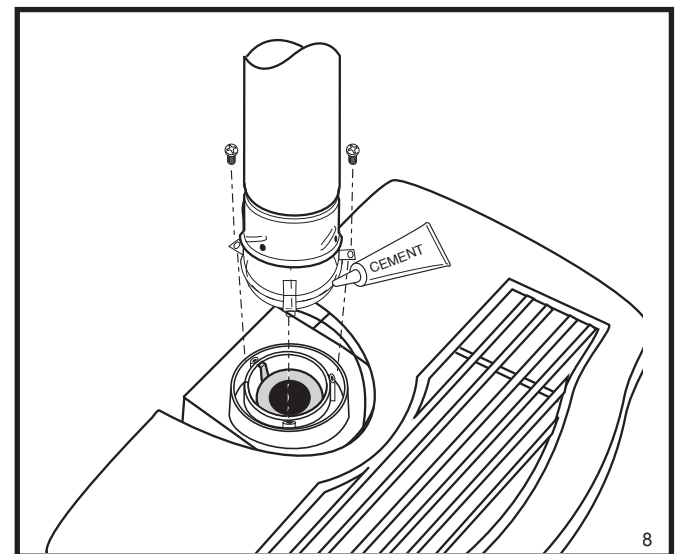

Fig. 20 Attach inner assembly to flue collar.
- Run a bead of sealant around the bottom end of the starter pipe and attach the assembly to the stove using three 1/4"-20 x 3/8" Phillips screws provided in the parts bag. (Fig. 20)